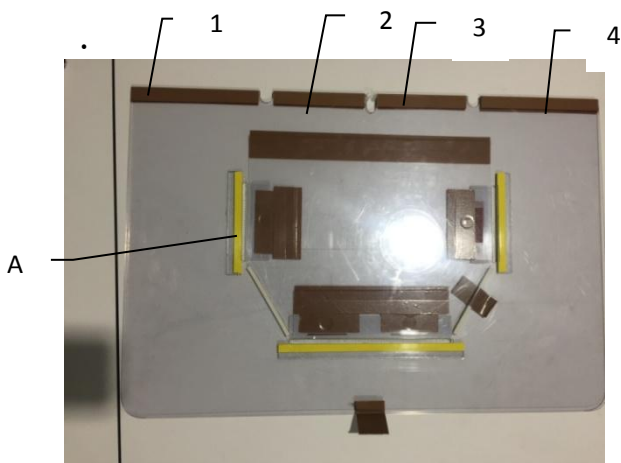

Fig 30
- As shown in fig.30 out the upper template on the lower template the sewing slots A of upper and lower templates should be aligned and overlapped and the special adhesive tape 4(wide 36mm) of the upper template should be glued at 1. 2. 3. 4 on fig.30.31 as shown In fig.30.31